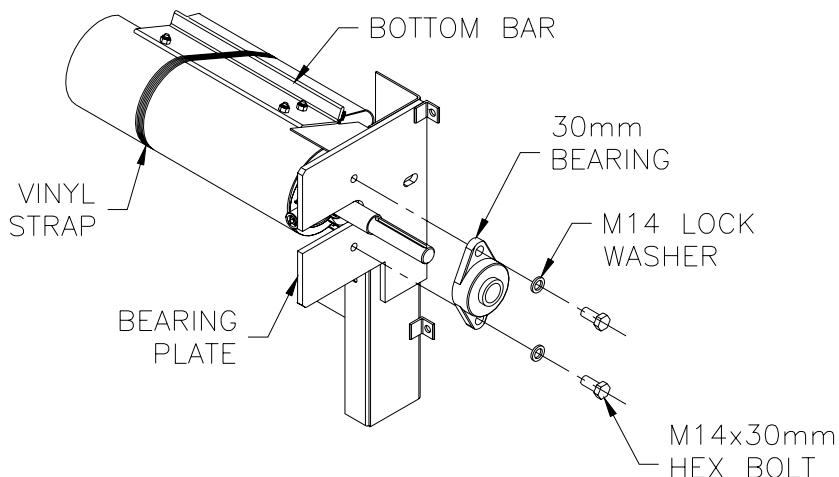

FIG. 7
- Place shaft with keyway on the Motor side as Ordered (Figure 7).
- Tighten Set Screws on Bearing Collars (Figure 7).